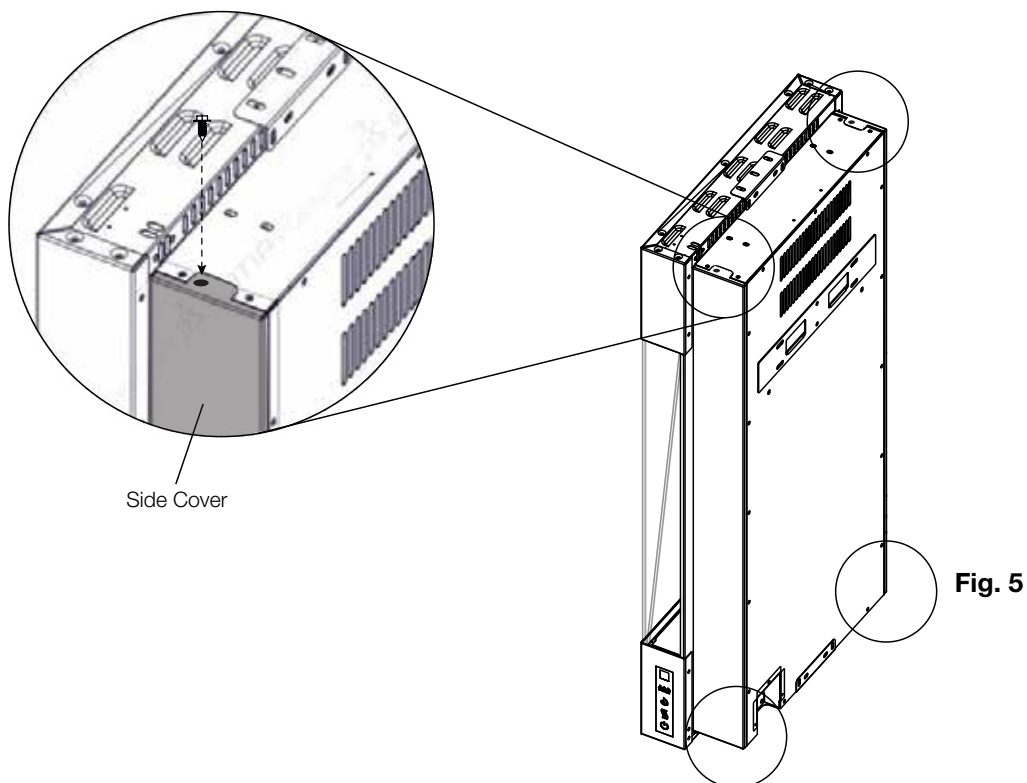

Fig. 5
12. Install the side covers using the 4 screws previously removed in Step 2 (**Fig. 5**).